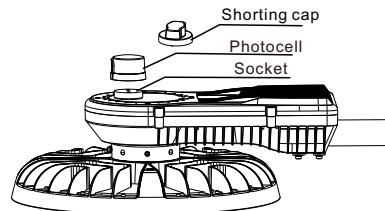

Figure 11
- ◆ When the photocell function is required, photocell should be installed on the back of lamp; When it's not required, shorting cap should be installed on the back of lamp Figure 11.